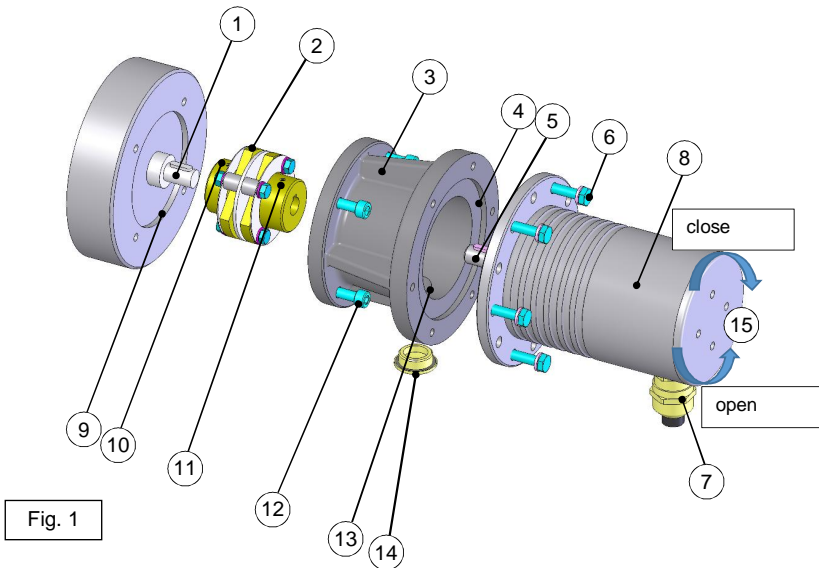

Fig. 1
1. Open the terminal box cover (15, Fig.1) with a special key by turning it counterclockwise. The terminal box cover has a right-hand thread.
2. Remove the cap of the cable gland (7, Fig. 1).